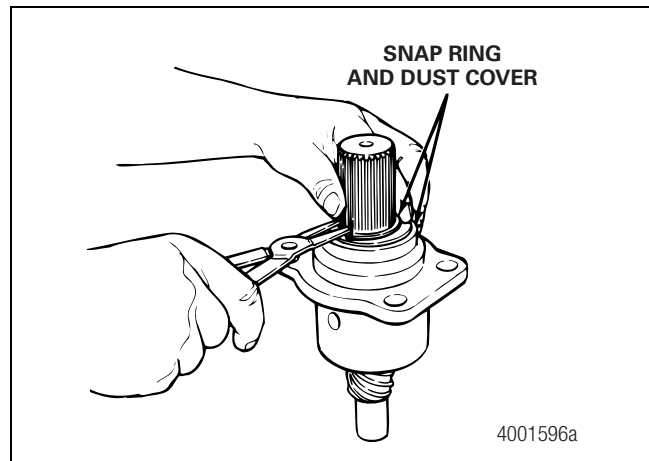

Figure 7.10
7. Install the camshaft dust cover onto the shaft. Install the snap ring to hold the camshaft and nut inside the cap. Figure 7.10.